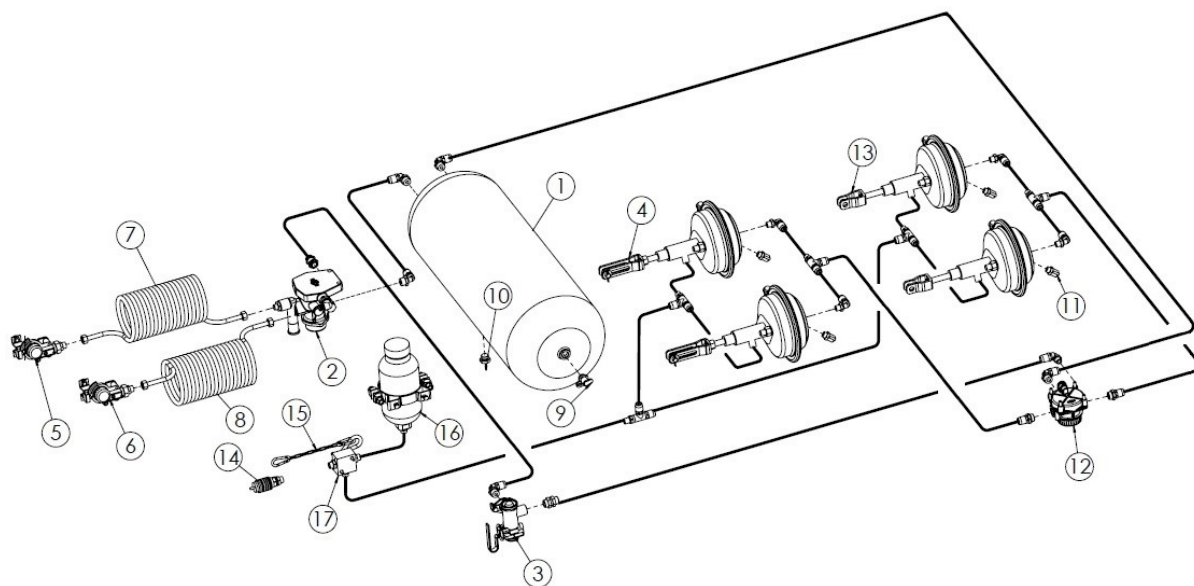

Figure 12 The hydraulic pneumatic braking system
- pneumatic hydraulic braking system (Figure 12)
Another option for the brake system is the hydraulic pneumatic brake system – Figure 12.